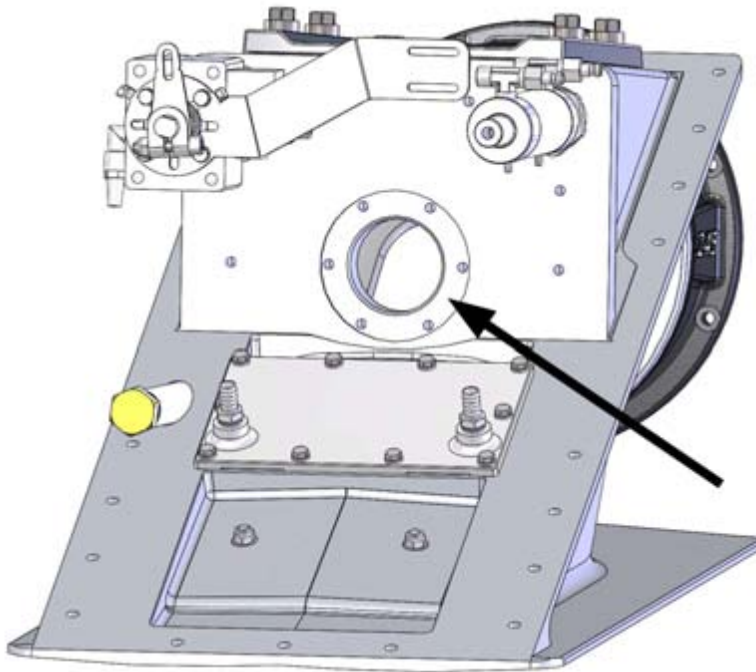

Figure 25. Shoulder
2. Make sure the seal is tight by spreading sealing compound (such as Sikaflex 291i) on the shoulder (figure 25) at the o-ring.